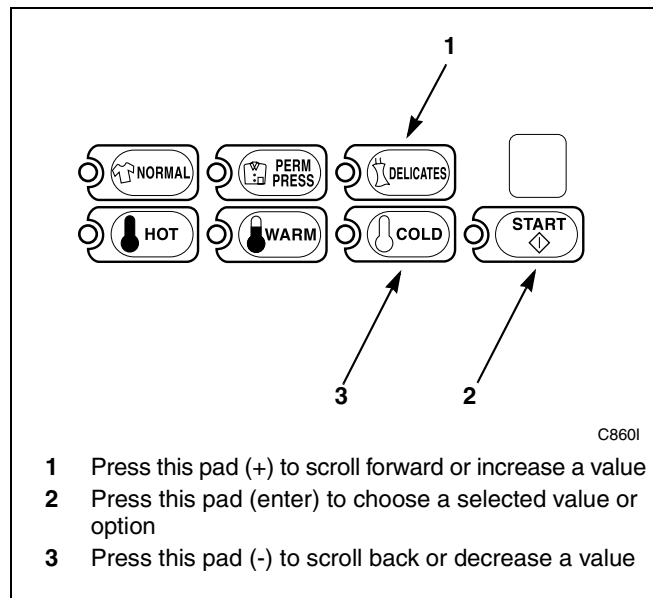

Figure 26
5. Press the DELICATES (+) or the COLD (-) keypad to increase or decrease the value of the fifth digit. Refer to *Figure 26*.